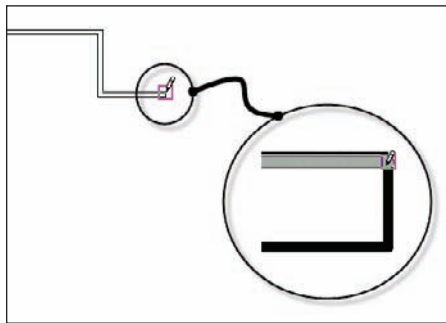

FIGURE 1.31 Select the top corner of the wall to start your new radial wall.
8. With the wheel button on your mouse, zoom into the upper corner of the building and select the top endpoint of the wall, as shown in Figure 1.31. The point you are picking is the corner of the heavy lines. The topmost, thinner line represents a concrete belt course below. If you are having trouble picking the correct point, don't be afraid to zoom into the area by scrolling the mouse wheel.